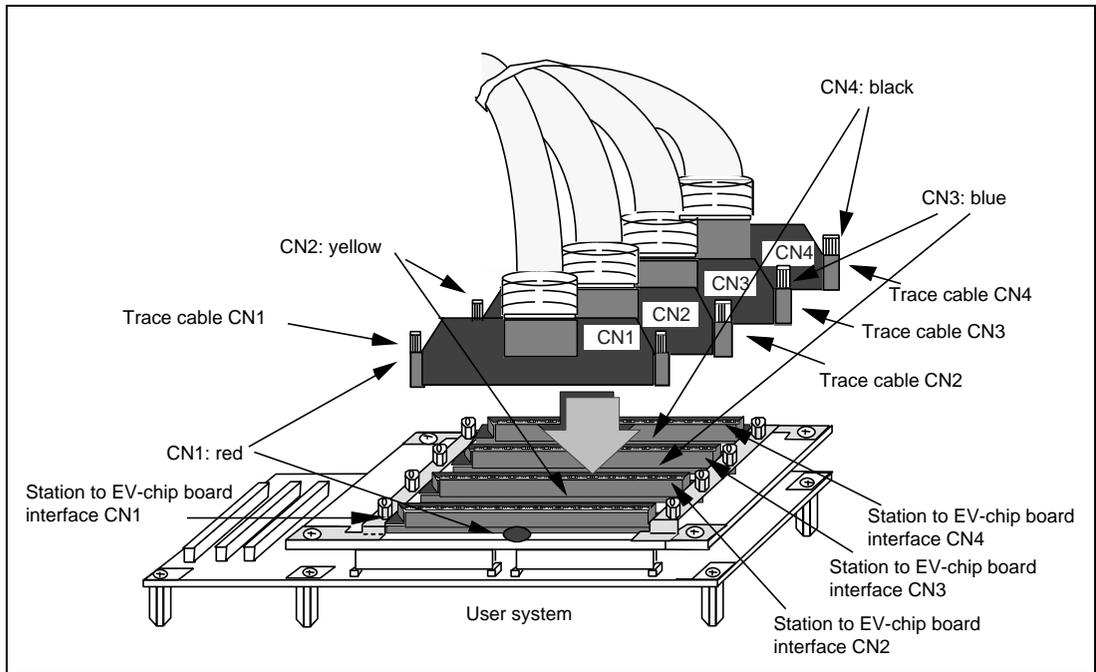

Figure 3.4 Connecting Trace Cables to the EV-Chip Board
4. Connect the trace cables to the station to EV-chip board interface connectors CN1, CN2, CN3 and CN4 on the EV-chip board. Confirm that each trace cable connected to a connector on the E8000 station is also connected to its corresponding station to EV-chip board interface connector on the EV-chip board. Connect the cables using the same method as in step 3. Figure 3.4 shows how to connect the trace cables to the EV-chip board interface connectors.